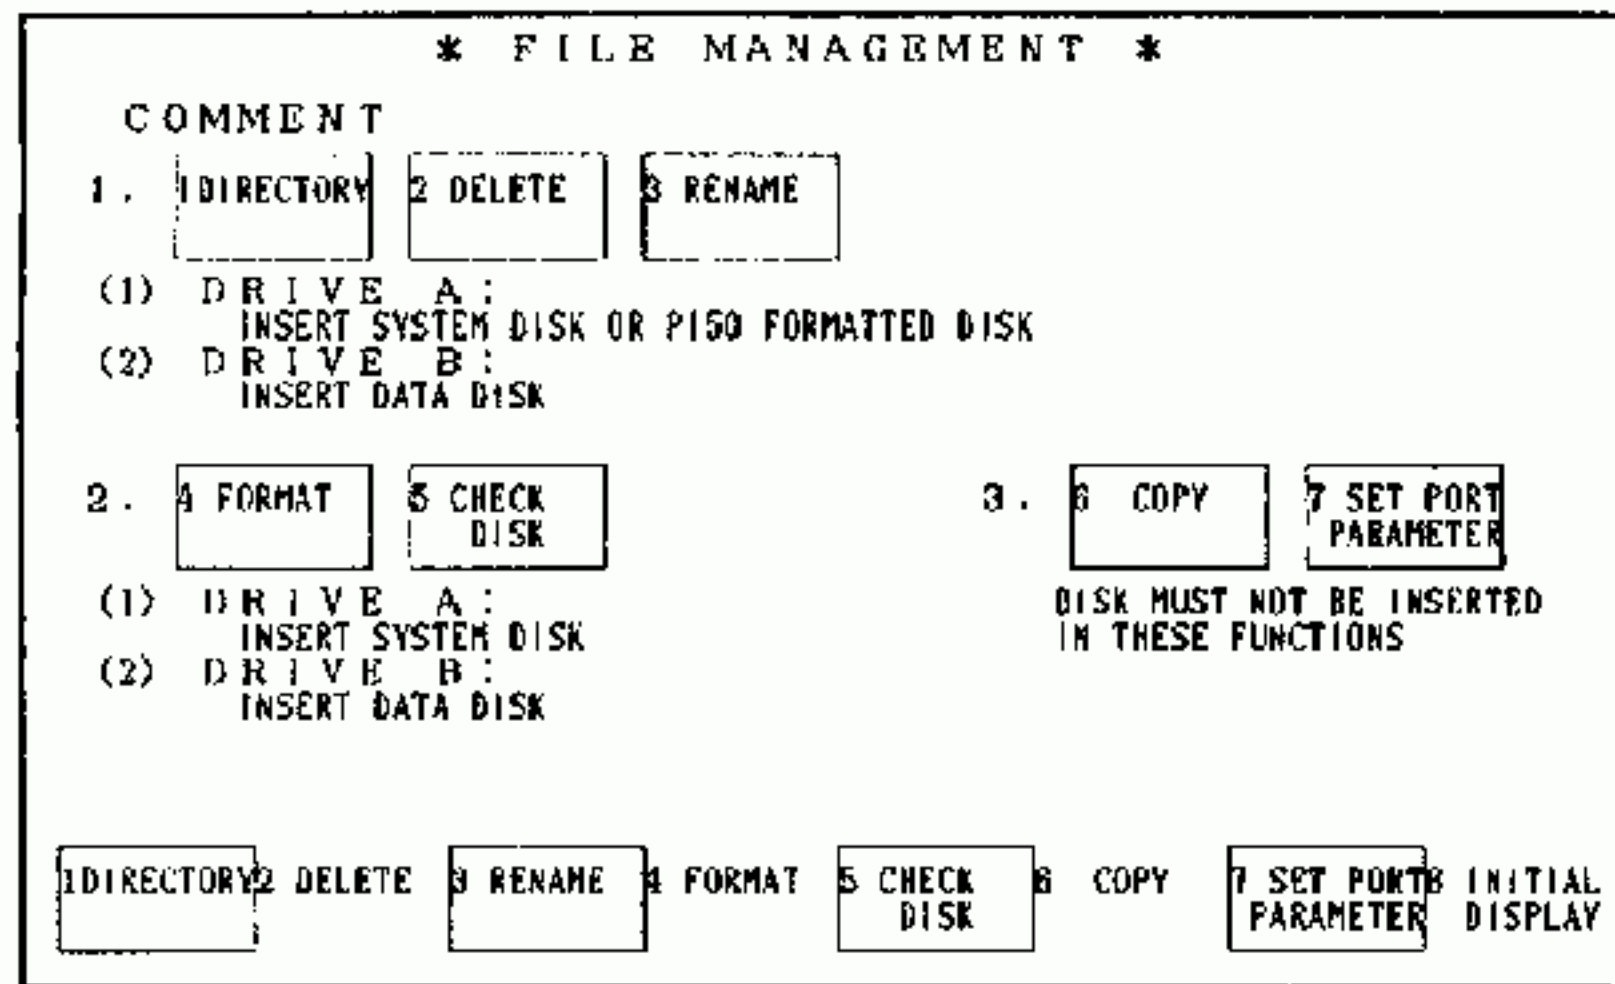

Fig. 5.2.135
2. Depressing "INITIAL DISPLAY" key as shown in Fig. 5.2.135 also calls up the operation menu display.